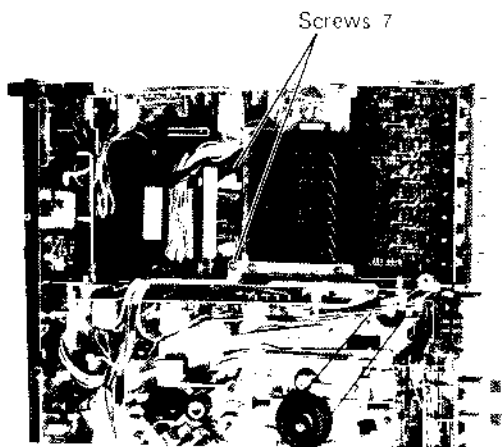

Fig. 4-13
1. Remove the two screws **8** on the tuner assembly as shown in Fig. 4-13.